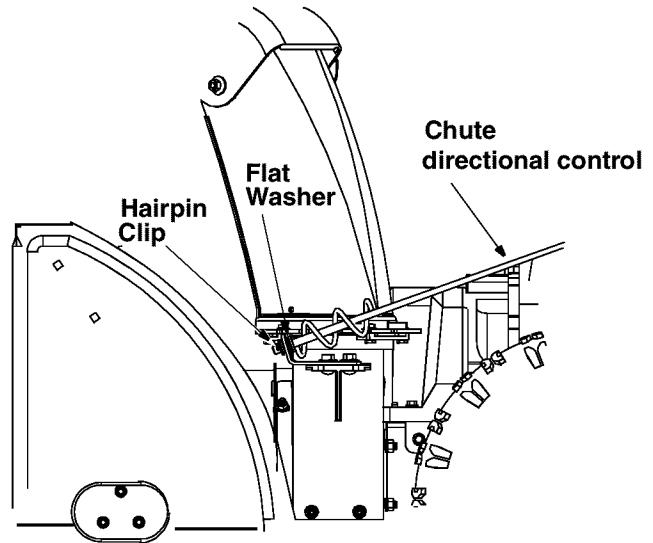

Figure 20
- Disconnect chute directional control assembly at the discharge chute by removing the hairpin clip and the two flat washers. See Figure 20.